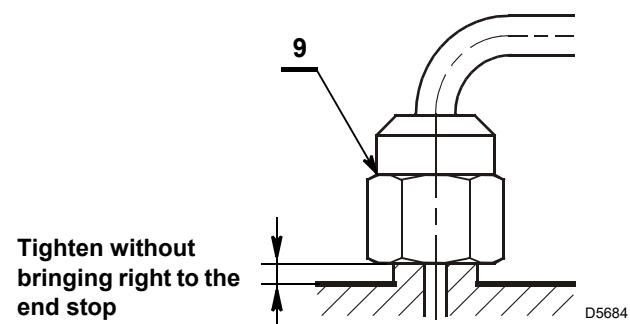

Fig. 14
Having put back the nozzle-holder assembly, screw in the nut 9), as shown in Fig. 14.
- Correctly screw in the nozzle 6), tightening it as shown in Fig. 14.